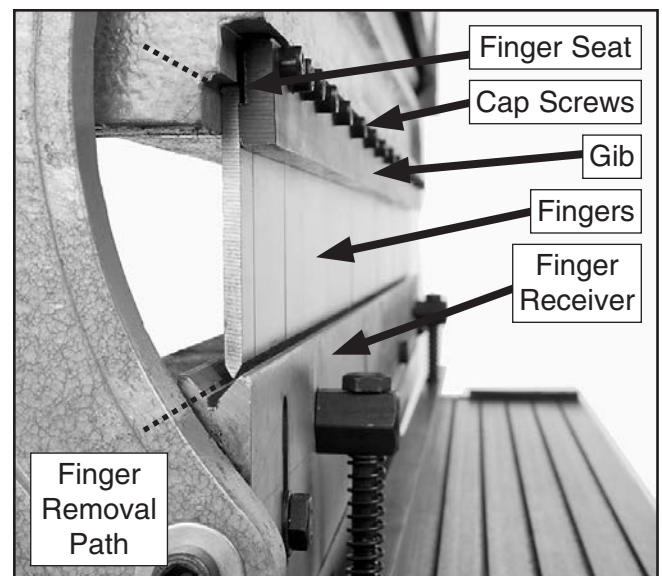

Figure 11. Removing fingers.
6. Using the work lever, position the finger receiver to the uppermost position (**Figure 11**).
7. Using a 6mm hex wrench, loosen all of the cap screws that hold the gib (Figure 11). Then, one at a time, slide the fingers out.